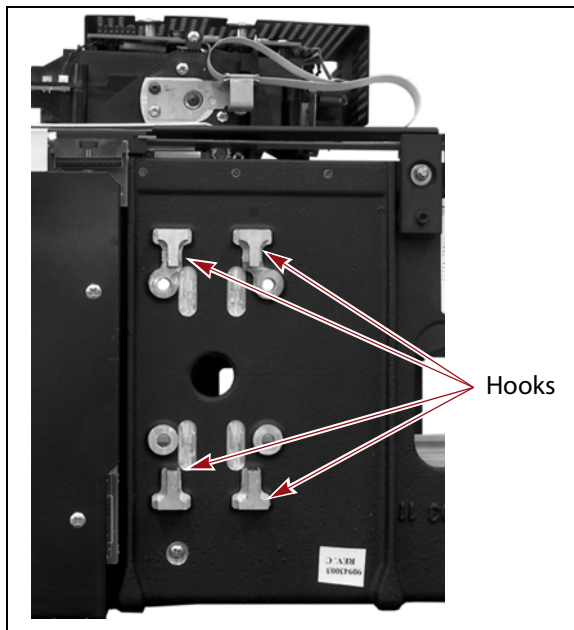
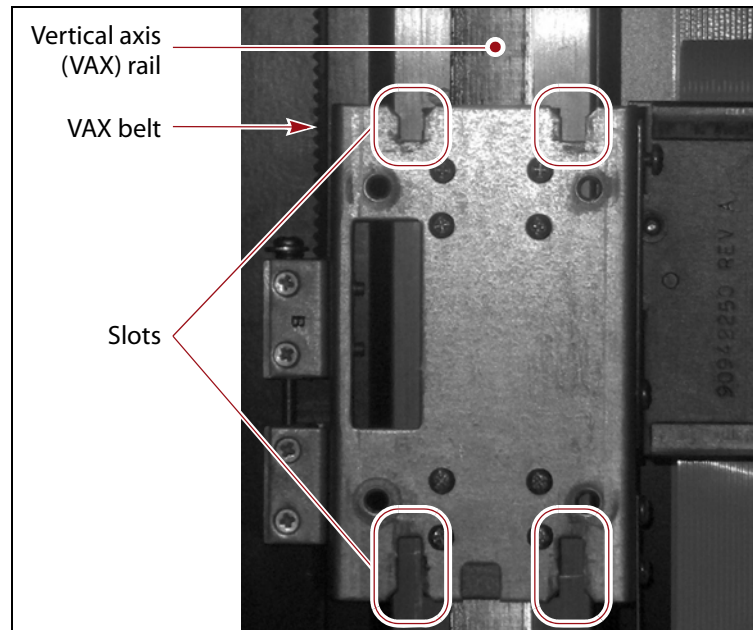

Figure 11 The transporter mounting hooks (viewed from the back of the transporter).
Figure 12 The mounting bracket slots on the VAX column.
- b. Lift the transporter into the library and slide the mounting hooks on the back of the transporter into the slots on the mounting bracket on the VAX column (refer to Figure 11 and Figure 12 on page 13 for the location of the hooks and slots).